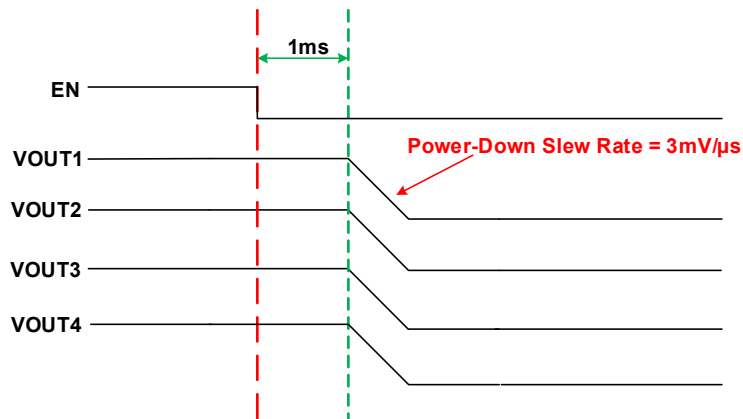

Figure 37. Auto Chip Power-Down Example
Figure 37 provides an example of power-down configurability. The master chip enable pin (EN) transitions from logic 1 to 0. In the Figure 37 example, BUCK1_SHUTDOWN_DLY is set for 1ms, BUCK2_SHUTDOWN_DLY is set for 1ms, BUCK3_SHUTDOWN_DLY is set for 1ms, and BUCK4_SHUTDOWN_DLY is set for 1ms.